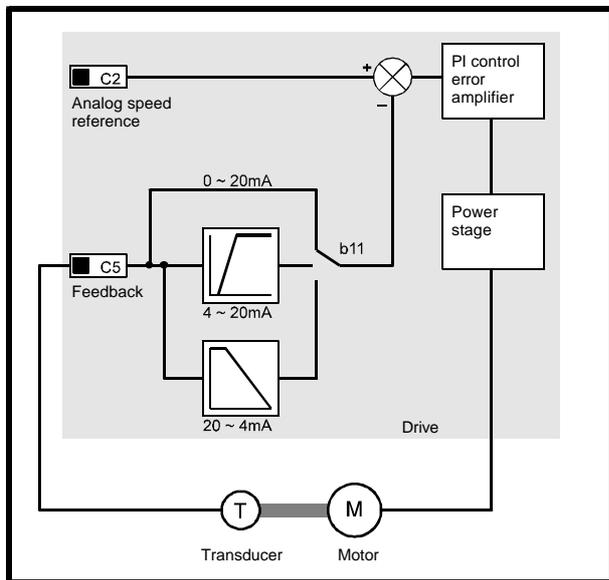

Figure 10-10 PI control loop
5. Stop the Drive and repeat steps 3 to 5 using progressively higher values for **p25**. If instability is observed (refer to Figure 10-10), decrease the value of **p25** slightly.